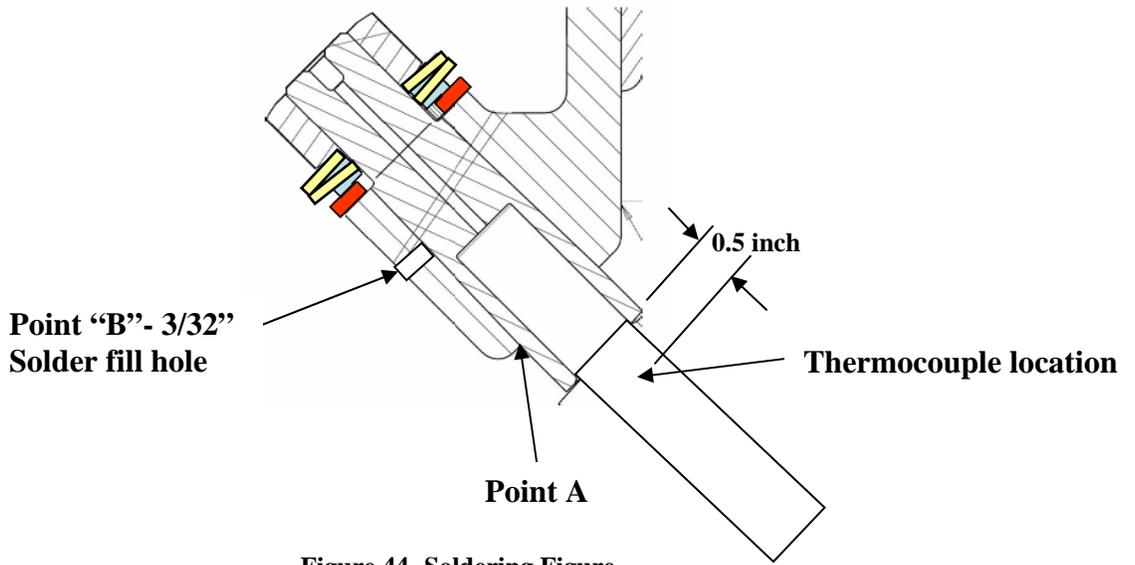

Figure 44- Soldering Figure
- Begin feeding the solder from the conductor end of the joint. [Point A] Figure 44- Soldering Figure